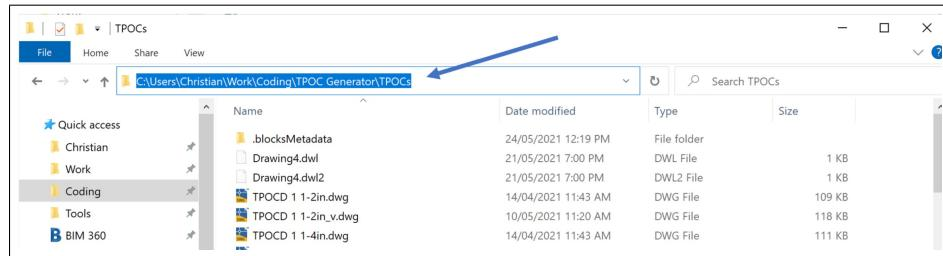

Figure 3: TPOCs Folder Location
5. Using the **File Explorer** locate the **TPOCs** folder within the TPOC Generator folder as shown in Figure 3